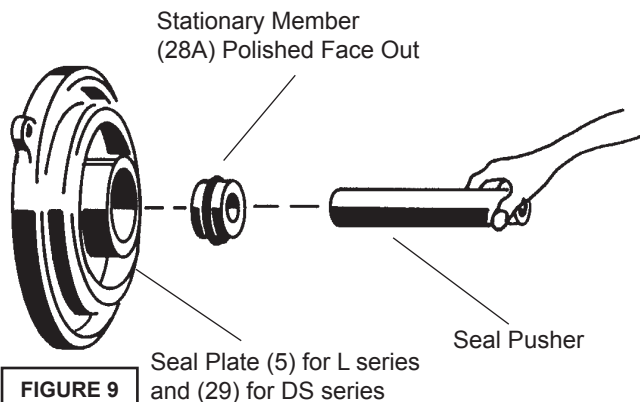
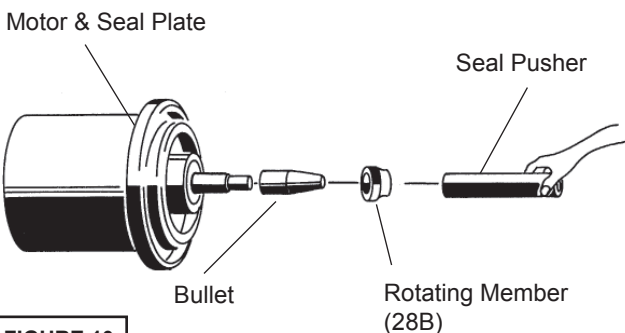

FIGURE 9
FIGURE 10
Inner Seal (DS Units Only)- Clean and oil seal cavities in seal plates (5, 29). Lightly oil (**DO NOT use grease**) outer surface of stationary member (28a). Press stationary member (28a) firmly into inner seal plate (5), using a seal pusher (see parts list - seal tool kit). Nothing but the seal pusher is to come in contact with seal face (see Fig 9).
Make sure the stationary member is in straight. Slide a bullet (see parts list - seal tool kit) over motor shaft. Lightly oil (**DO NOT use grease**) shaft, bullet and inner surface of bellows on rotating member (28b) see Figure 10. With lapped surface of rotating member (28b) facing inward toward stationary member, slide rotating member over bullet and onto shaft, using seal pusher, until lapped faces of (28a) and (28b) are together (see Figure 9).